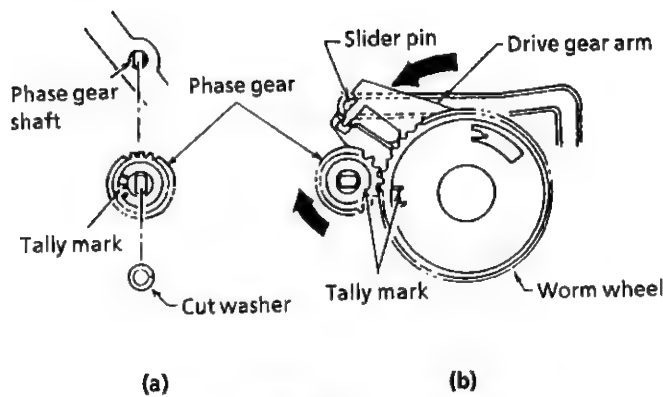

Figure 1-9.
1. Turn the phase gear clockwise until the slider comes to a halt in the cassette insertion direction. (See the Figure 1-9.)
2. Insert the set up worm wheel gear assembly into the cassette housing frame (R), matching the mark on the phase gear with the mark on the worm wheel gear. Detach the cut washer on the phase gear assembly and the phase gear for easier installation of worm wheel assembly.